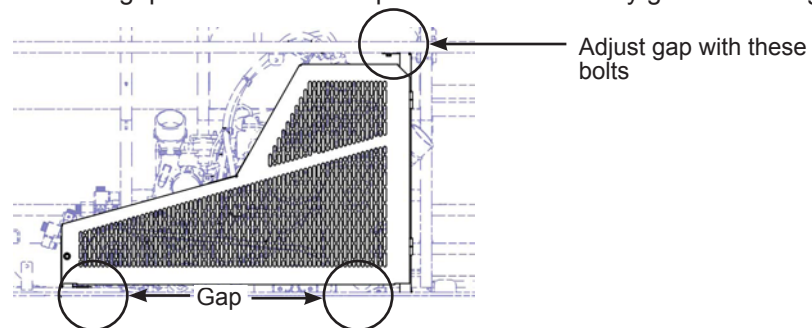

Figure 3 - Belt Guard Adjustment
- 1.10. Adjust the belt guard. Keep an even gap between the bumper and the belt safety guard. See Figure 3.